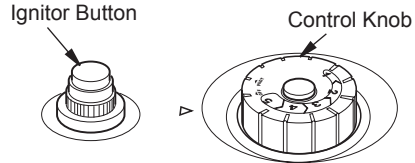

Figure 22 - Control Knob In The OFF Position, Models VP16TA, VN18TA, VP26TA, & VN30TA
3. Turn thermostat control knob clockwise to the OFF position (see Figure 22 or 23 for your model).
5. Turn thermostat control knob counter-clockwise to the PILOT position. Press in thermostat control knob for 5 seconds (see Figure 22 or 23 for your model).